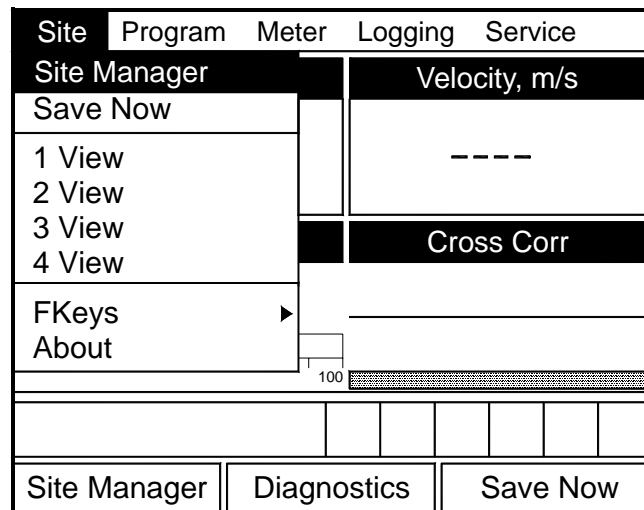
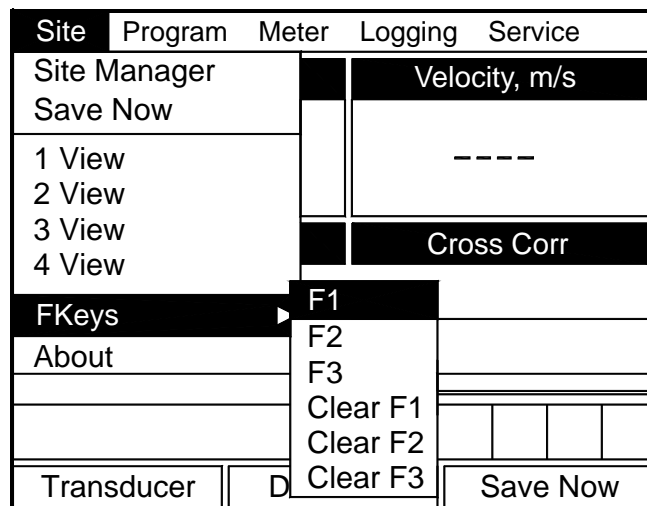

Figure 2-6: Site Menu
Figure 2-8: FKeys Menu
To enter the Site Menu, press the [MENU] key at the lower right of the CTF878 keypad. The Menu Bar replaces the Status Bar at the top of the screen. Scroll to the Site Menu using the [◀] or [▶] key. Press [ENTER] or the [▼] arrow key. The screen now appears similar to Figure 2-6 below. While following the programming instructions, refer to Figure 3-13 on page 3-12.
As mentioned earlier, the CTF878 can display one to four different measurement parameters simultaneously. However, sometimes you might wish to display only one or two parameters. To change the number of open display windows from within the Site Menu (shown in Figure 2-6 on page 2-6), use the [▼] or [▲] arrow keys to move to the desired number of views (1 View, 2 Views, etc.). Press [ENTER].
- From the Site Menu (shown in Figure 2-6 on page 2-6), use the [▼] or [▲] arrow keys to move to the FKeys entry on the menu. Press [ENTER]. The screen now appears similar to Figure 2-8 below.
1. From the Site Menu (shown in Figure 2-6 on page 2-6), use the [▼] or [▲] arrow keys to move to the FKeys entry on the menu. Press [ENTER]. The screen now appears similar to Figure 2-8 on page 2-8.